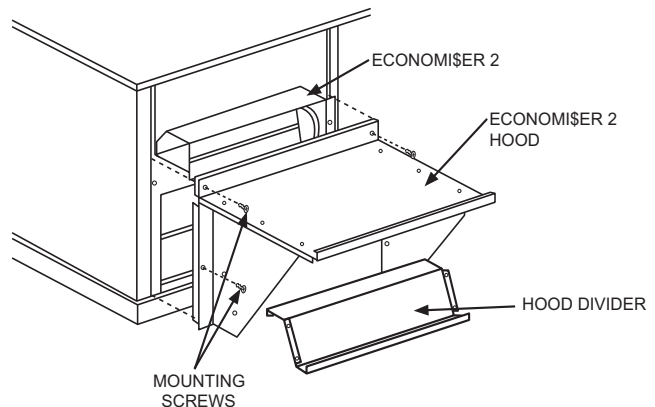

Fig. 8 — EconoMiSer[®] 2 Hood Installation
11. Install the EconoMiSer 2 hood over the EconoMiSer 2. Use screws provided (see Fig. 8).